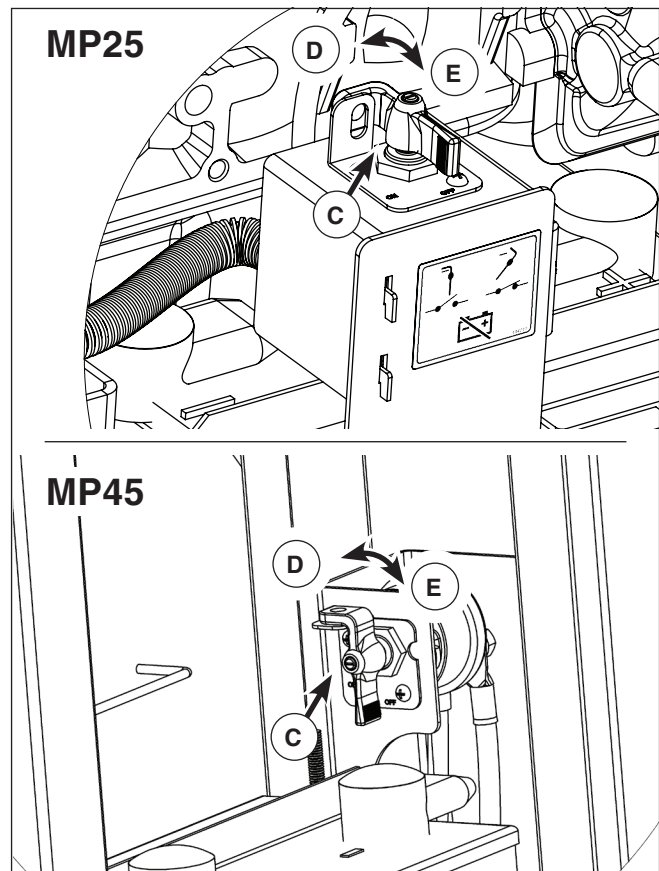

Figure A4
1. Turn the switch (C, Figure A4) to the Disconnect position (D).
2. Turn the switch to the Connect position (E, Figure A4).